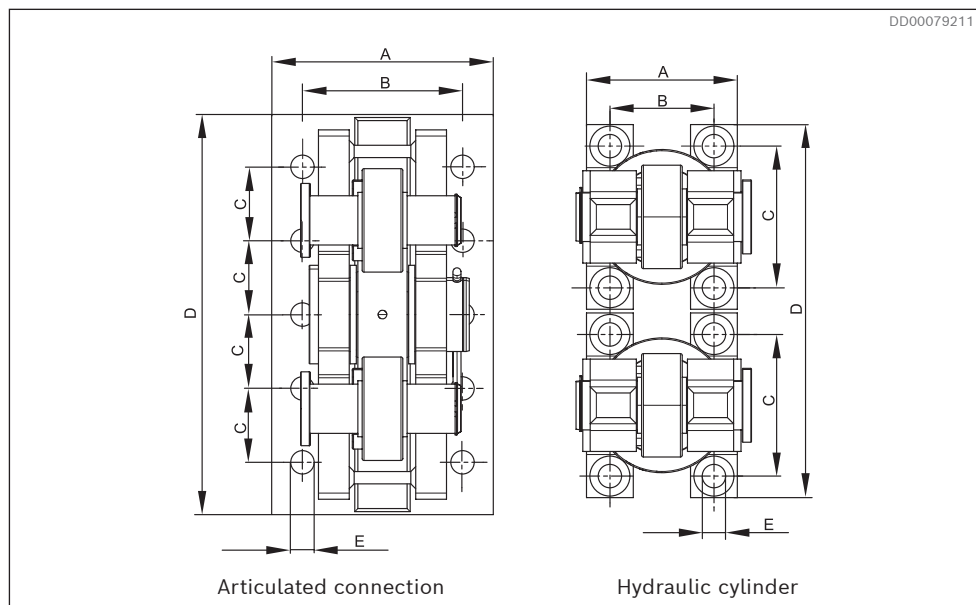

Fig. 36: Hole pattern articulated connection and hydraulic cylinder for DTCBM 4600 to DTCBM 6000
- 2 Hole pattern and dimensions for ground attachment see Fig. 36 and Table 13